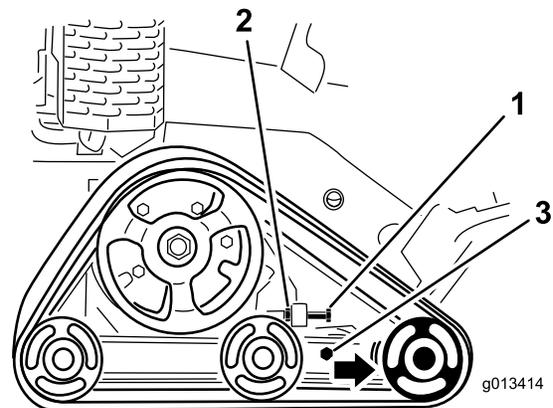

Figure 43
3. Loosen the jam nut on the track tensioning bolt and the clamp bolts on the tension arm (Figure 43).
4. Torque the tensioning bolt to 32.5 to 40 N·m (24 to 30 ft·lb) to tighten the track (Figure 43).
4. Back out the tensioning bolt and jam nut (Figure 43).
5. Loosen the clamp bolts (Figure 43).